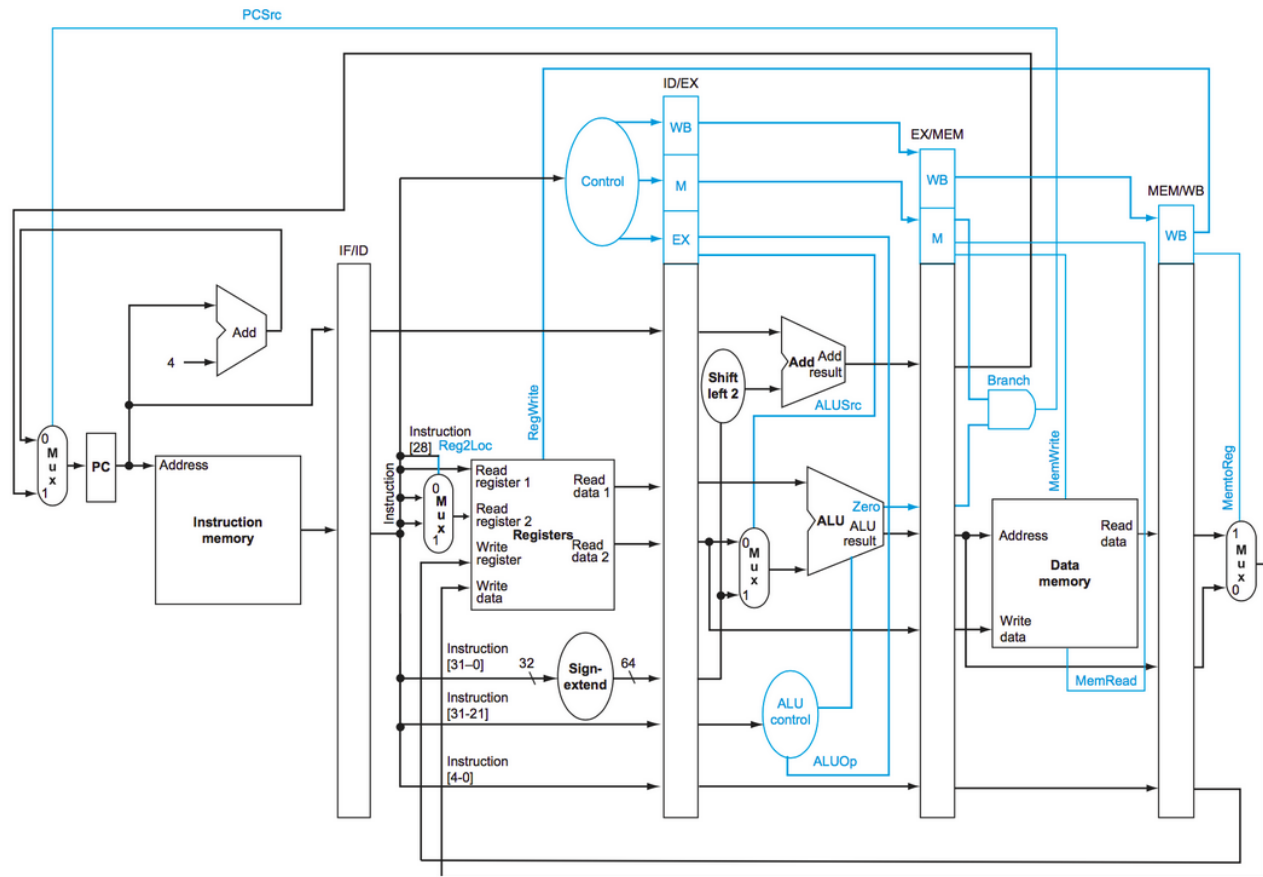

Figure 1: **Schematic of Pipelined ARM (LEGv8) processor for Lab 3.** This is Figure 4.50 in the textbook
- Implement the pipelined ARM (LEGv8) CPU as shown in Figure 1 *without* hazard detection or data-forwarding